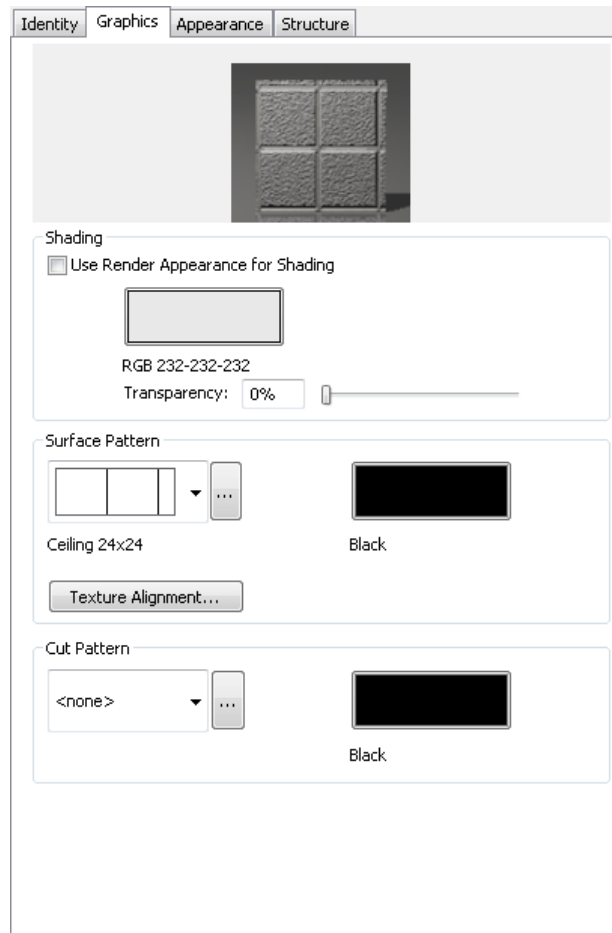

FIGURE 4-2.5 Material dialog; Graphics tab
The information found on the *Graphics* tab primarily relates to how the various *Materials* appear on screen and how they print on paper (or in a PDF). This closely relates to the development of the Construction Document (CD) deliverables. The image to the right (Figure 4-2.5) still relates to the *ACT Material*.